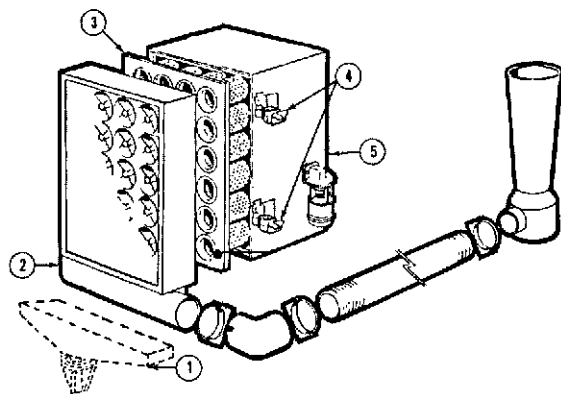

Fig. 2-7 (N21026) Air cleaner — cartridge type (two stage)
1. Loosen wing nuts (4, Fig. 2-7 or 2-8) on air cleaner
2. To install a new cartridge, hold cartridge (3, Fig. 2-7 and 2-8) in same manner as when removing from housing. Insert clean cartridge into housing; avoid hitting cartridge tubes against sealing flange on edges of air cleaner housing.
4. Replace pre-cleaner panel (2) and tighten wing nuts (4) by hand, for final tightness turn 1-1/2 to 2 turns with a small adjustable wrench. Do not overtighten. On pre-cleaner with exhaust aspirator, assemble aspirator tube to pre-cleaner panel and tighten "U" bolt.